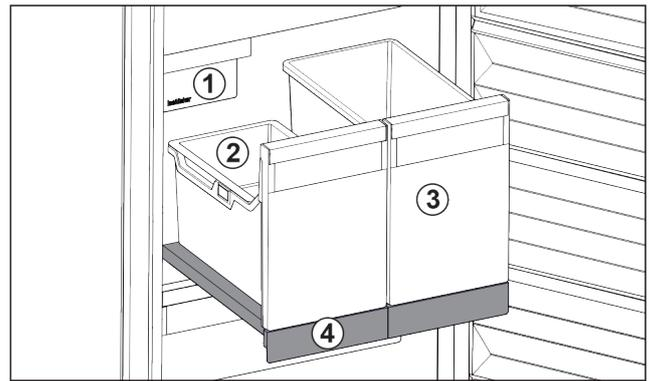

Fig. 83 Pull-out board with IceTower
- (1) IceMaker
- (2) Hang-on tray for ice cubes
- (3) Container for pizza or alcoholic beverages, for example
- (4) Pull-out board
There are two high (IceTower) containers on the pull-out board. Ice cubes from the IceMaker are collected and stored in the Fig. 83 (2) container. The container Fig. 83 (3) is suitable for storing tall foodstuffs or beverages such as pizzas or alcoholic drinks.